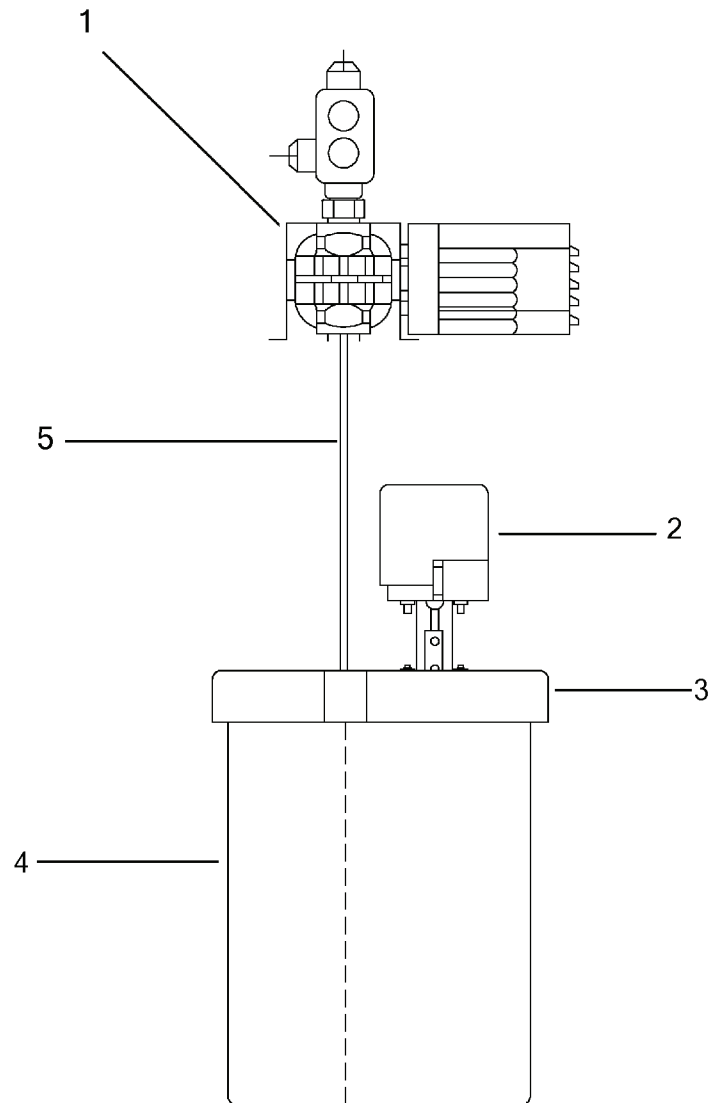

Figure 2-17. Chemical Feed Treatment Assembly.
## 2-24. Chemical Feed Treatment Assembly. (Figures 2-17, 2-18 and 2-19)
To service the chemical feed treatment assembly (Figure 2-17) with AMEROYAL, proceed as follows:
- a. Mix 7 ounces of AMEROYAL in 24 gallons of freshwater in the chemical cleaning tank (4, Figure 2-17).
- b. Adjust the feed rate of the chemical feed injection pump (1) to one gallon per hour (GPH). Pump setting should be approximately at the 70 to 80 percent dial reading.
- b. Remove chemical feed injection pump suction hose (5, Figure 2-17) from tank lid (3).
- c. Remove the tank top cover (3) from the tank (4).
- d. Remove the chemical agitator assembly (2, Figure 2-17) from the tank top cover (3) by unscrewing the four wing nuts (7, Figure 2-19) from the four bolts (5).
- e. Remove tank (4, Figure 2-17) and tank top cover (3) from chemical feed treatment cabinet.
- a. Replace the tank (4, Figure 2-17) and tank top cover (3) in the chemical feed treatment cabinet outlet.
- c. Replace tank top cover (3, Figure 2-17) onto tank (4).
- d. Replace chemical feed injection pump suction hose (5).